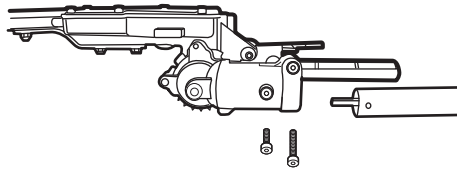

Fig. 7a
- 1). Loosen the two bolts (C3) on the joint and then align the hole of the hedge trimmer shaft (C6). (See Fig. 7a)